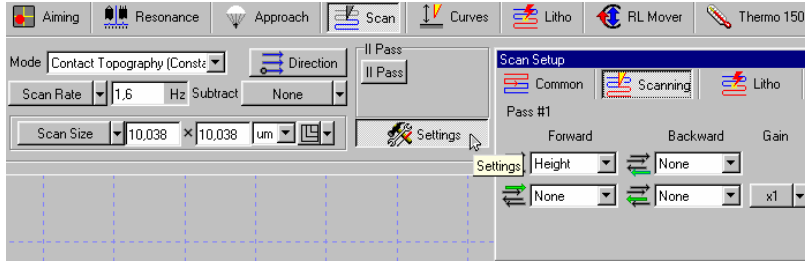

Fig. 3-58
- Open the measuring channels panel (Fig. 3-58) using “Settings” button on the scanning control panel